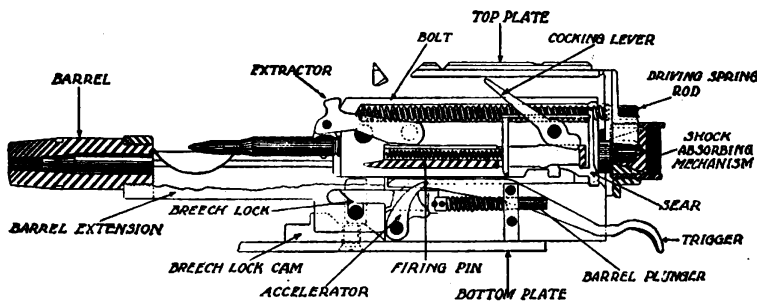

FIGURE 32.—Moving parts of caliber .30 machine gun in rearmost position.
Q. Point out and state the uses of the important parts shown in figures 32 and 33. *A.* See figures 32 and 33.